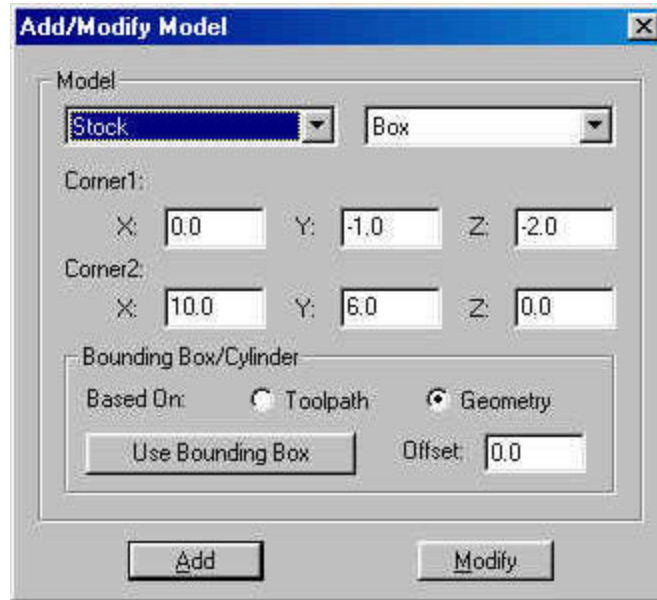

Figure 29: Setup of material stock
- 5.) Setup up the material to have the properties as seen in figure 29, then click ADD.